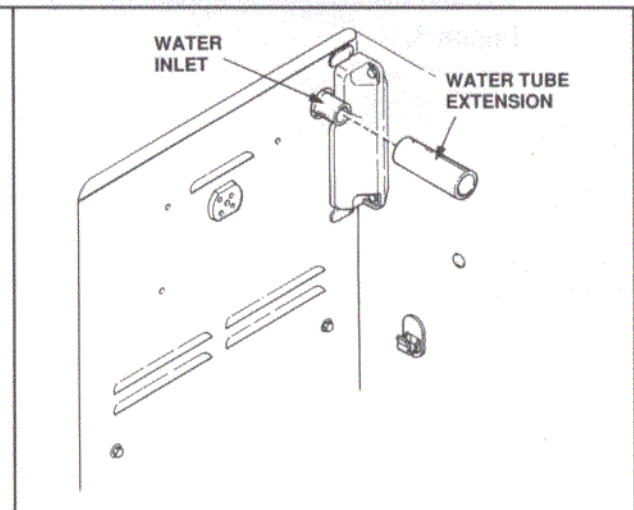

Figure 6
5. Slip the water tube extension onto the water inlet on the back wall of the freezer (see Figure 6). Push the extension onto the water inlet to a point where it is flush with the back wall of the freezer, so that it will not slip off later and allow water into the freezer.